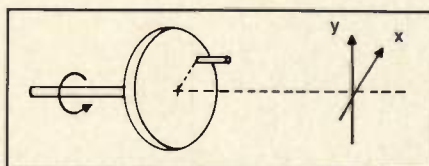
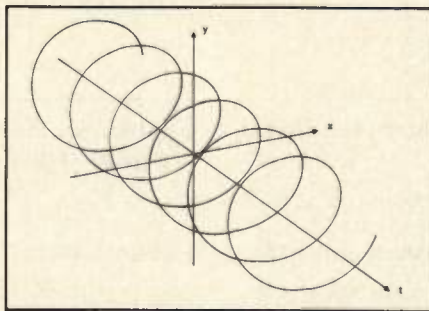
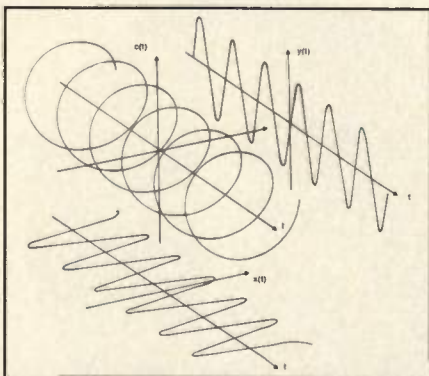

Figure 1. A spinning wheel with eccentric rod.
Figure 2. Time evolution of the rod position in the x-y plane of the constant speed wheel shown in Figure 1.
Figure 3. Decomposition of the complex signal $c(t)$ into its two orthogonal projections $x(t)$ and $y(t)$.
two-dimensional signals. Mechanical engineers, for one, currently use excitations whose evolutions with time cannot be represented by a two-dimensional signal. Consider, for example, the eccentric rod fixed to the spinning wheel shown in Figure 1. To simplify the discussion and present a fundamental complex signal, assume that the wheel is spinning at a constant angular speed. The time evolution of the rod position in the x-y plane can then be represented by the three-dimensional signal $c(t)$ shown in Figure 2. For each time value t , two real numbers, x and y , are required to fully position the amplitude of that three-dimensional signal in the x-y plane. The resultant two-dimensional signals $x(t)$ and $y(t)$ evolve on two distinct planes perpendicular to each other. As shown in Figure 3, the signals $x(t)$ and $y(t)$ constitute the orthogonal projections of the three-dimensional signal $c(t)$. Taken together, those two signals represent $c(t)$ without any ambiguity. The three-dimensional signal $c(t)$ is called a "complex signal," and can be represented mathematically as the vectorial sum of the two orthogonal real signals $x(t)$ and $y(t)$, or
According to Figure 3 and the relation given in equation 1, the particular complex signal $c(t)$ so illustrated is given by:
This complex signal is known as the exponential, a member of the most basic signal family of complex exponential e^{st} . The parameter ω is the angular speed of rotation in radians per second of the exponential. The exponential is not constrained to rotate only in the direction shown in Figure 3. It can also rotate in the reverse direction. In that case, the angular speed of rotation (or angular frequency, as it is usually called) is negative and the exponential is expressed as:
The sign of the angular frequency ω is therefore representative of the *direction* of rotation. Neglecting this basic discussion about the angular frequency of an exponential signal leads to the most current fallacy in electrical engineering: Negative frequencies do not exist; they are just a mathematical artifice. The main reason why this fallacy becomes established is that, with one exception (1), the exponential shown in Figure 3 is never pictured in modern textbooks on signals, circuits and systems. Students are accustomed to seeing and working only with the orthogonal projections of the exponential, i.e., the cosine and the sine waves. As: